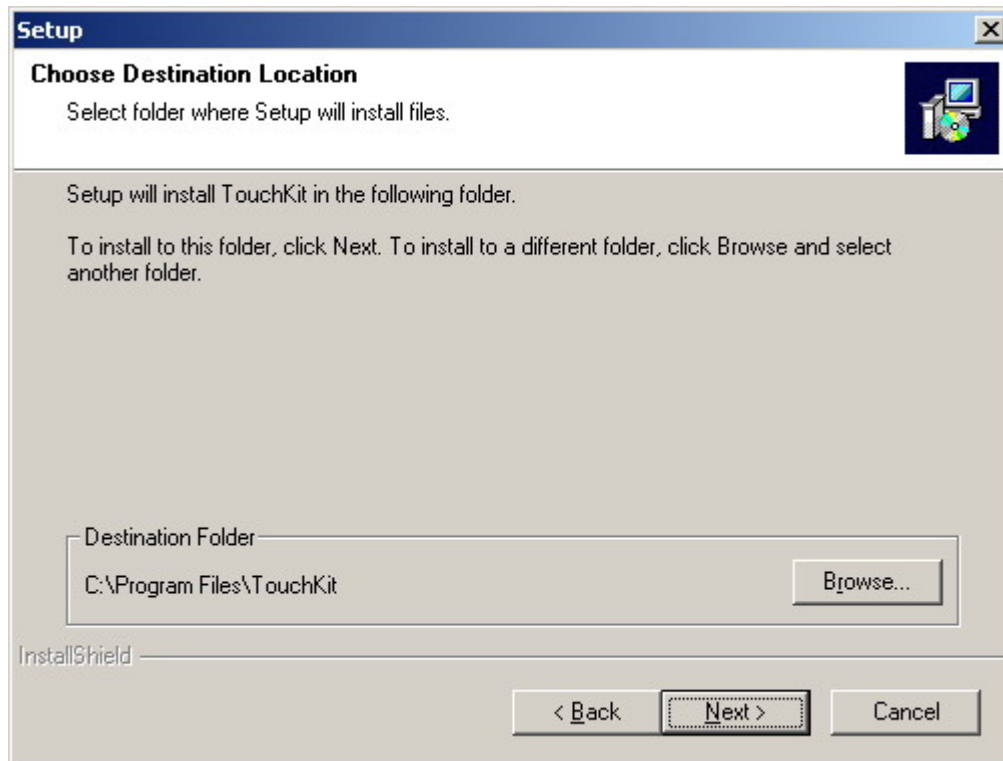

Figure D-7: Controller Installation Directory
Step 10: The user is then prompted to select a file directory in which the touch kit controller is installed (**Figure D-7**). The default directory is "**C:\Program Files\TouchKit**." If a different folder must be used, select browse and then select the folder. Once the folder is selected, click Next to continue.